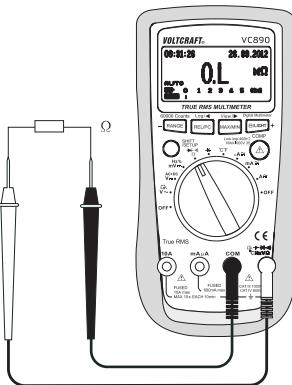

Fig. 5
2. Insert the red test lead in the °CHzVΩ measuring socket (7), the black test lead in the COM measuring socket (8) (Fig. 5).